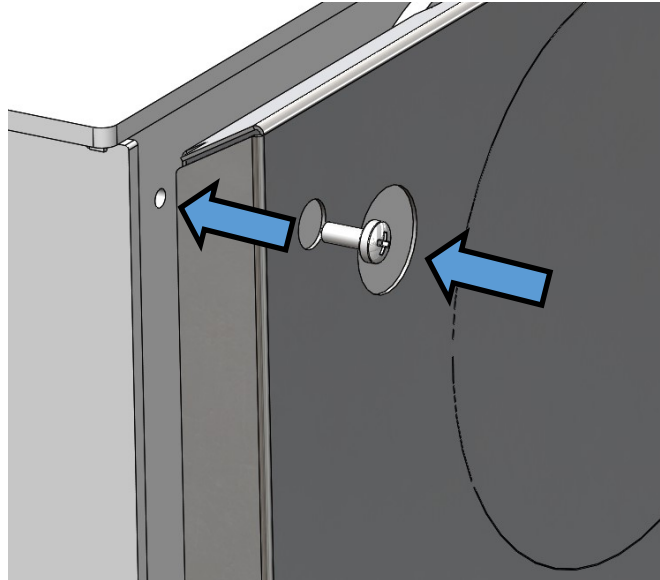

Figure 5. Outside Air Screw Location (Upper LH & RH Sides)
Step 4 : Insert and tighten the 2x mounting screws, via the circular cut out in the face of the heat shield. Use a screwdriver to tighten the screws. Thus clamping the outside air kit to the rear of the appliance (See Fig. 5.).